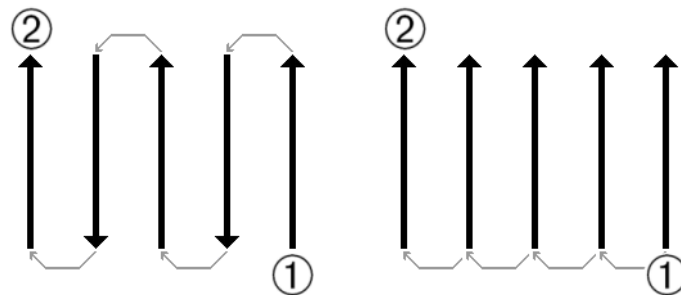

Figure 43: Given manner
Figure 43 shows all different ways of scanning in a scheme. The measurement starts at your starting point ① and ends at point ②.